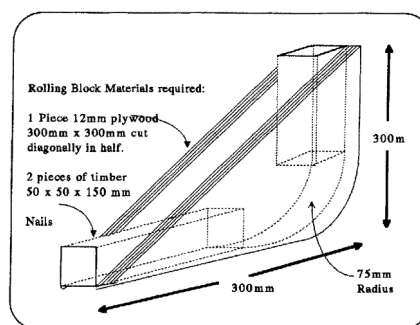

Fig 3
- If it is necessary to rotate large Insulating Glass Units, a corner block may be used to protect the edge of the unit (Figure 3), or use a vacuum lifter with a rotating head.